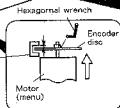
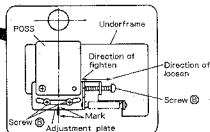
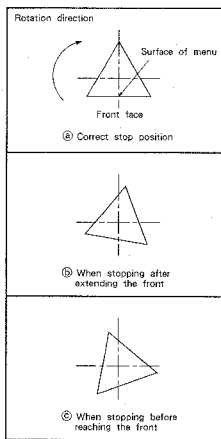

Fig. 7-2
Fig. 7-3
Fig. 7-4
- Loosen screw ② which holds the encoder disc using a hexagonal wrench.
- Loosen screw ③ which holds the adjustment plate.
- (1) Set the gap between the encoder disc and photo interrupter of the motor (menu) to 1.2 mm. (Fig. 7-2)
- (2) Fix the screw of the encoder disc by tightening with a hex wrench.
- (3) Turn screw ③ so that the carved mark on the adjustment plate aligns with the underframe. Then temporarily tighten screw ③.
- (4) Push the ROTATE MENU key on the front panel of the main unit so that menu rotates. Then, perform the following adjustments depending on the condition. (Fig. 7-3)
- Loosen screw ④, then tighten screw ⑤ turning it clockwise.
- Loosen screw ④ and turn screw ⑥ counterclockwise to loosen it.
- (5) Turn the menu again and firmly tighten screw ④ when the menu stops directing its surfaces to the front. (Fig. 7-4 ②)
- (6) Finally, turn the menu and check that the menu stops directing all of its three surfaces to the front at every 120° rotation.